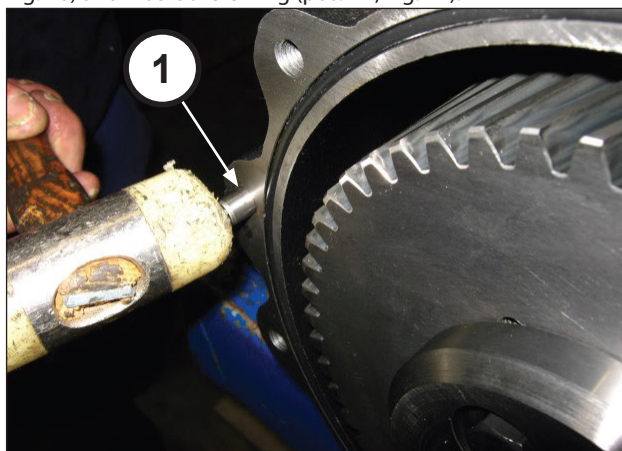
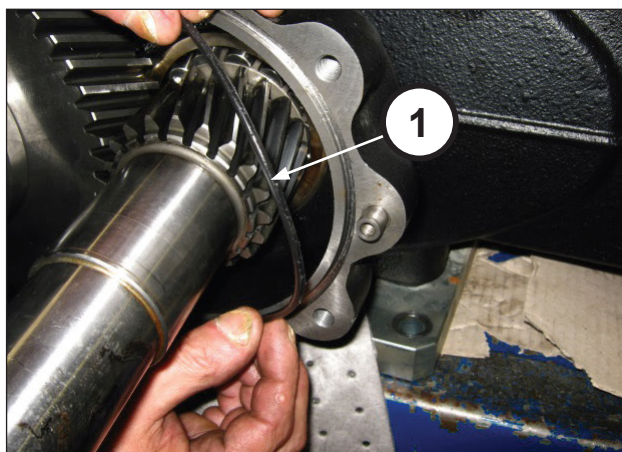

Fig. 76
Fig. 77
Apply the 2 Ø10x24 pins on the reduction gear box (pos. ①, Fig. 76) and insert the O-ring (pos. ①, Fig. 77).